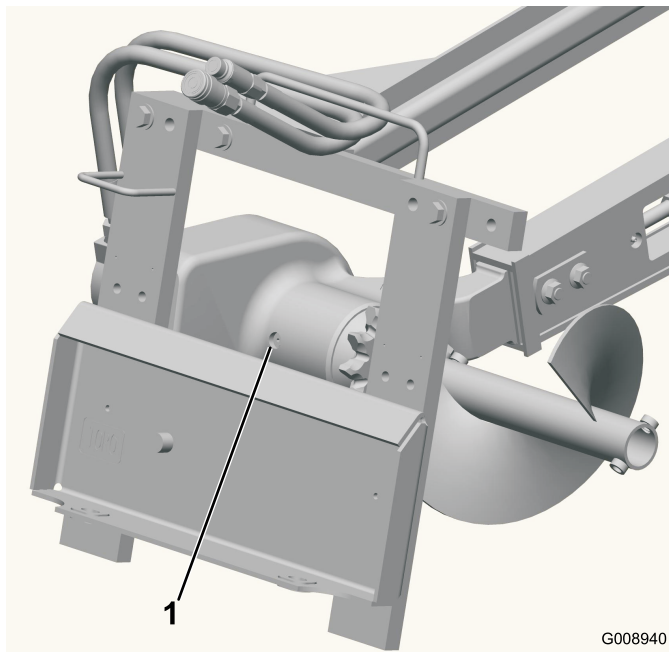

Figure 6
3. Clean the area around the bearing case fill hole plug (Figure 6).
4. Remove the plug from the bearing case fill hole (Figure 6).